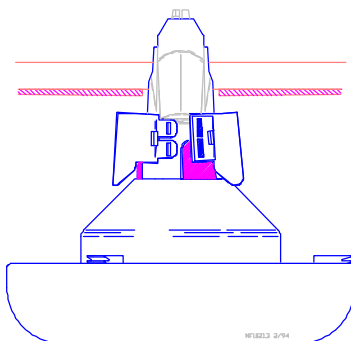

Figure 2.
3. Insert the "fingers" into the locking tabs, as shown in Figure 2.